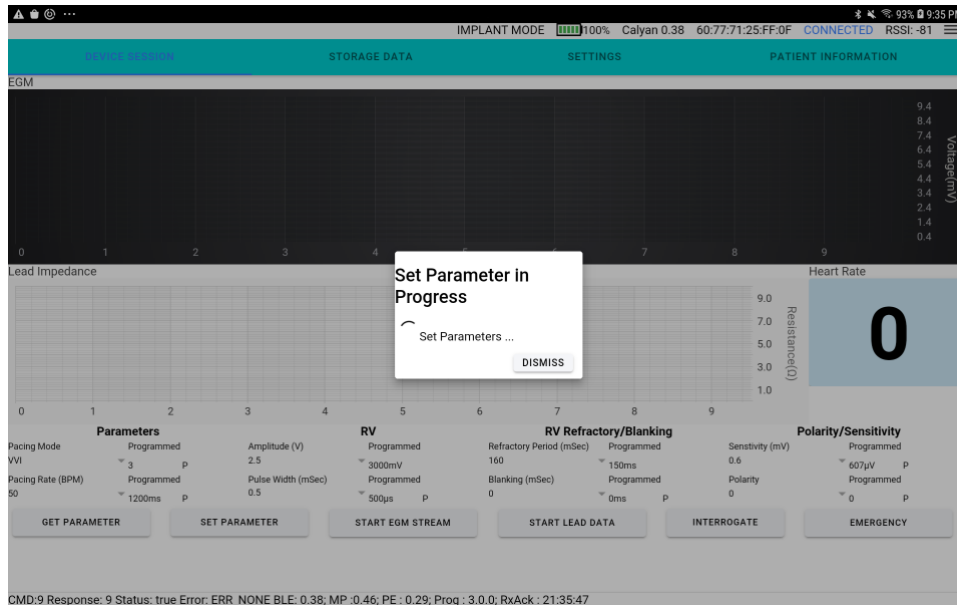

Figure 11 : Set Parameters.
- 8. The set Parameter will take several seconds to conclude, a dialog box will appear indicating the task in progress. The dialog box will close after programming the parameters. Wait for the dialog box to close (Figure 11).